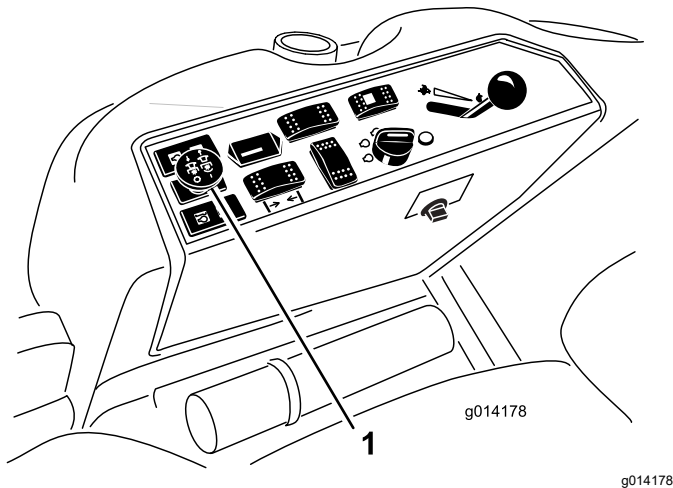

Figure 24
3. Pull up the PTO switch to engage it (Figure 24).